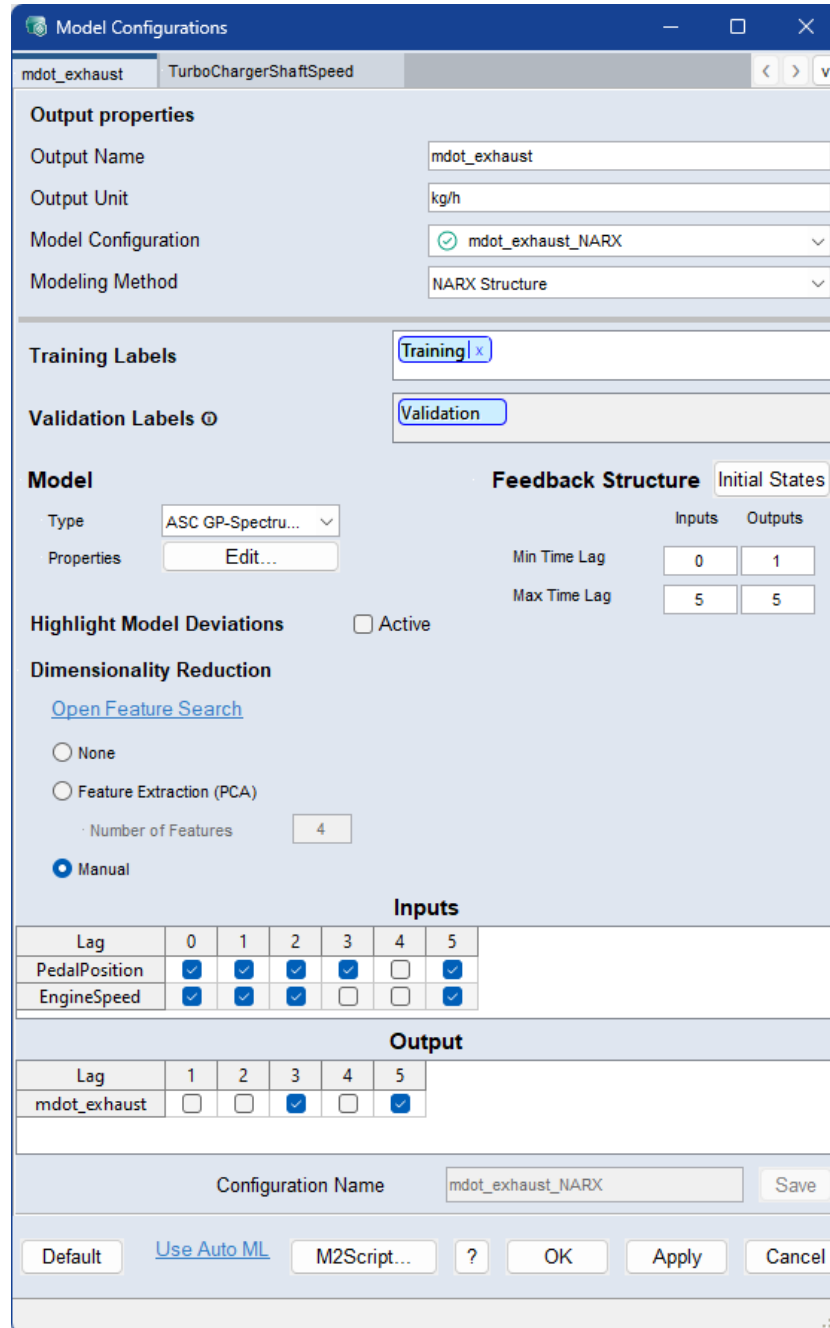

Fig. 5-6: Model Configurations window
This window contains the same elements as the **Model Configurations** window (Fig. 5-6: on the previous page), except that there is only one tab for all outputs.
Several options are available in the **Model properties** window (Fig. 5-6: on page 38).
- **Manual:** Manual feature selection allows the user the explicit selection of the feature set by activating the corresponding checkboxes in the **Inputs** and **Output** table (in Fig. 5-6: on page 38).